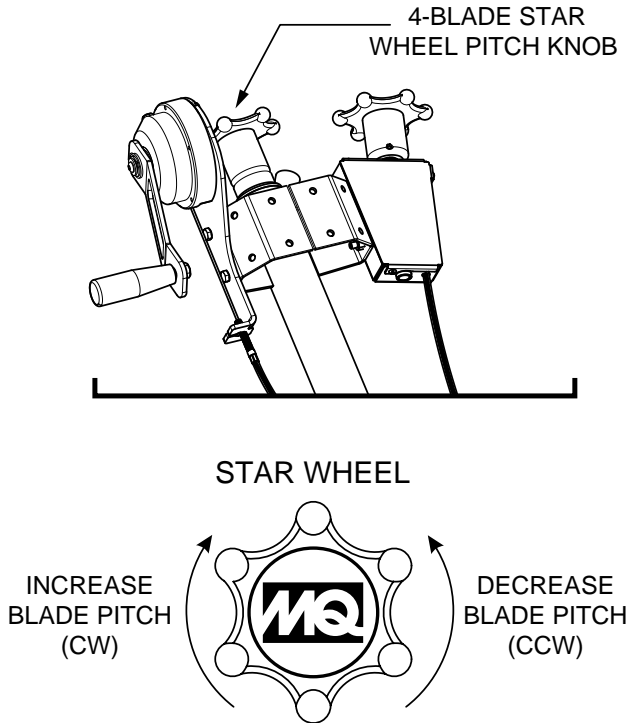

Figure 8. Adjusting 4-Blade Pitch Cable
1. To pitch the 4-blades flat, simply turn the star wheel counterclockwise. This releases tension on the pitch cable (Figure 8).